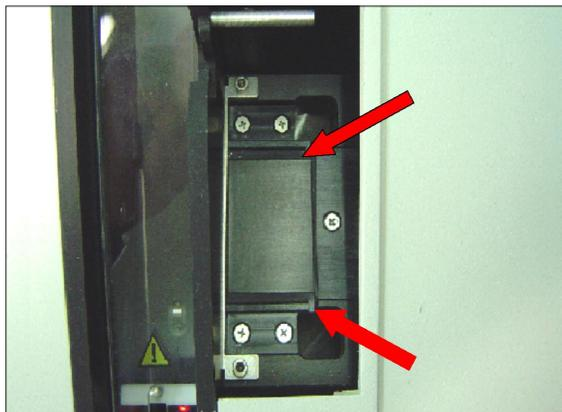

Fig. 39
- Load Station Magazine & Chute Fig. 39